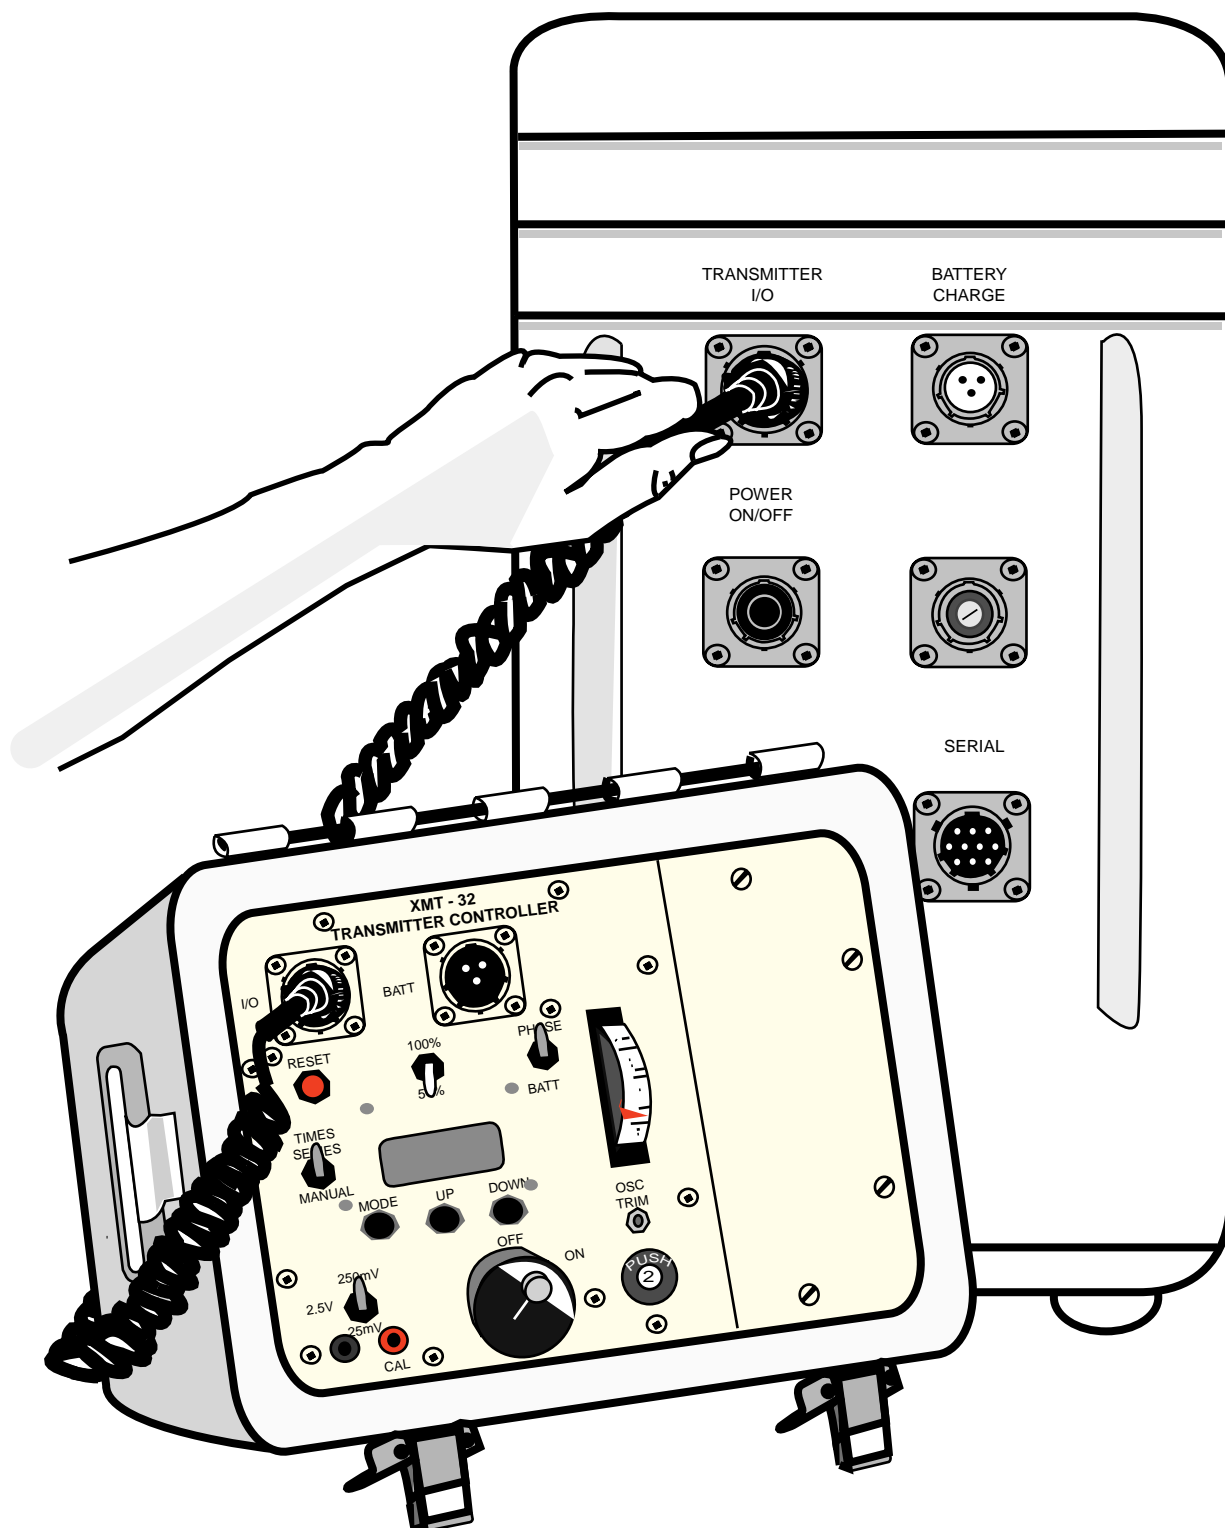

Figure 6.3 – Connecting the GDP-32 Receiver and XMT Transmitter Controller for synchronization.
Refer to Figure 6.3 and 6.4a,b for a pictorial description of the frequency adjust and synchronization operations.
2. Connect the synchronization cable between the I/O port on the transmitter controller XMT-32 and the TRANSMITTER I/O port on the Control I/O panel of the GDP32-II receiver (Figure 6.3.)
1. Locate the OSC TRIM potentiometer adjustment screw on the panel of the XMT-32 (Figure 6.3.)